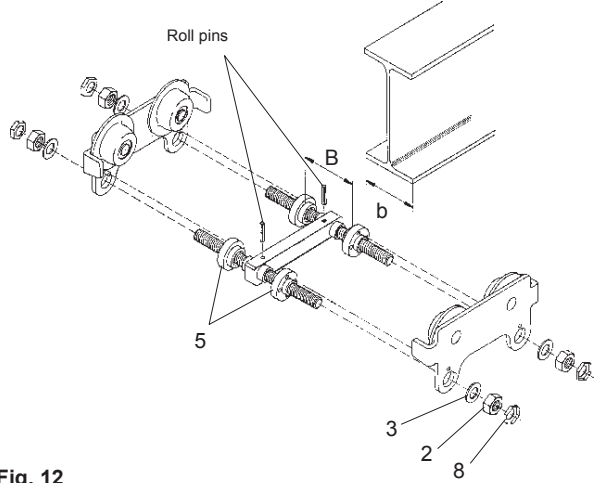

Fig. 12
Inspect the traverse for correct assembly and visually check for external defects, deformations, superficial cracks, wear or signs of corrosion. In particular check that the roll pins in the centre traverse have been fitted correctly (fig. 12)
**Fitting the trolley (see fig. 12)**
1.) Unscrew the locking nuts (pos. 8) and securing nuts (pos. 2) from the traverses (pos. 1) and remove the side plates (pos. 6).
3.) Adjust the measurement "B" between the shoulders of the round nuts (pos. 5) on the threaded traverses (pos. 1).